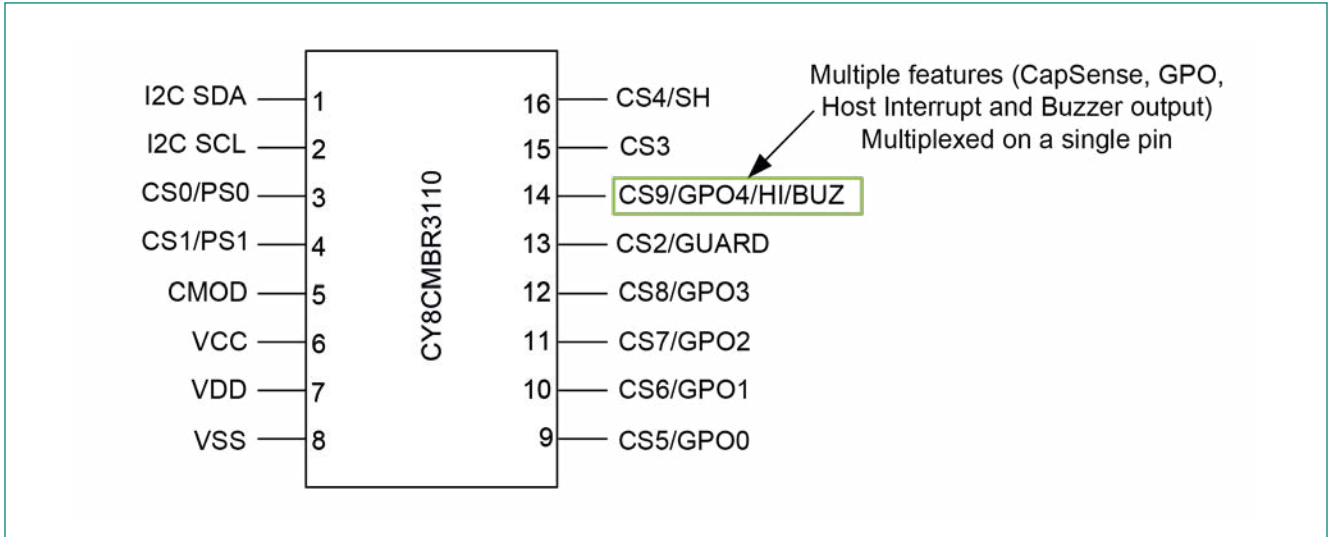
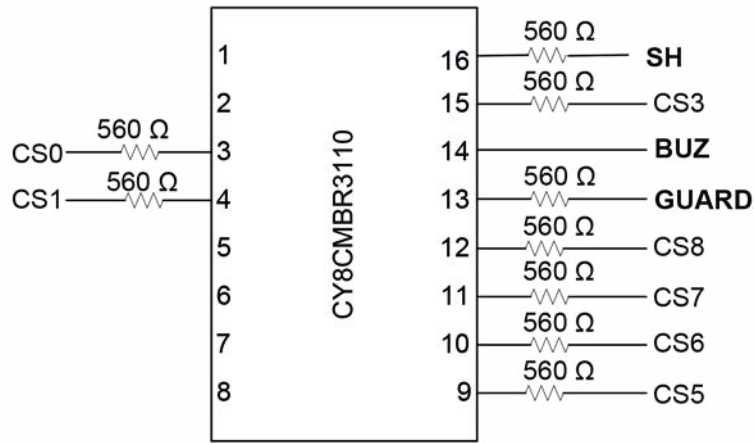

Figure 3-1 Multiple Features Supported on a Single Pin
Figure 3-2 Special Output (SPO) Pin Selection
For example, consider a CAPSENSE™ design which requires seven buttons, buzzer output, and the liquid-tolerance feature. As listed in Table 1-1, the CY8CMBR3116 and CY8CMBR3110 controller fit the design requirement. For illustration purpose, CY8CMBR3110 is selected. The first step in the schematic design is to select the Buzzer (BUZ), Shield (SH), and Guard (GUARD) pins because these pins are multiplexed with the sensor and GPO pins, as Figure 3-1 shows. Refer to the “Pinouts” section in the CY8CMBR3xxx datasheet to know the multiple features supported on the same pin. After the special output pins are selected, select the button sensors CS0, CS1, CS3, CS5, CS6, CS7, and CS8, as Figure 3-2 shows.